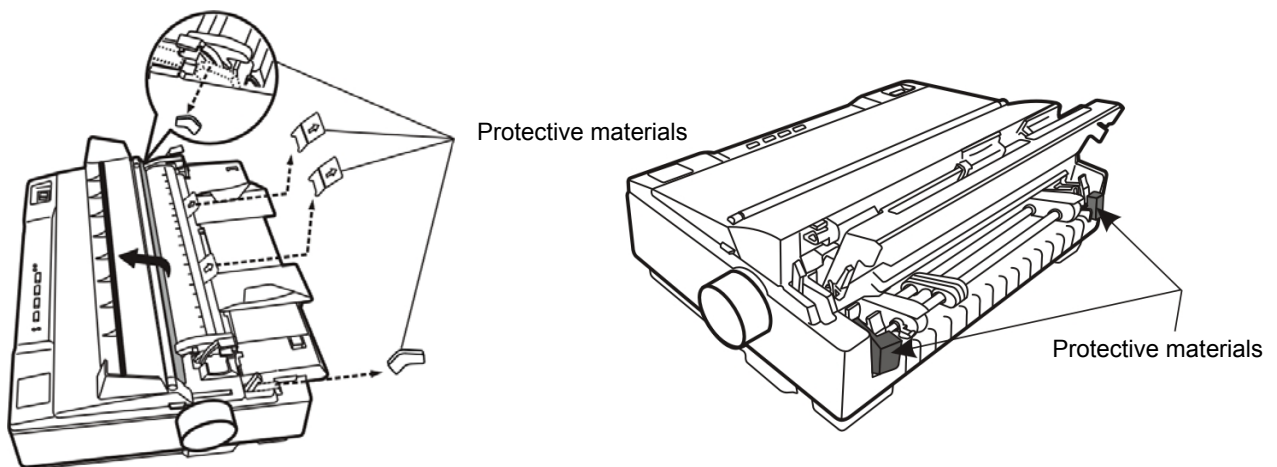

Figure 1-2 Unpacking protective materials
1. Open the packing box, lift up the printer, open the upper cover of the printer, remove the packing materials shown in figure 1-2.